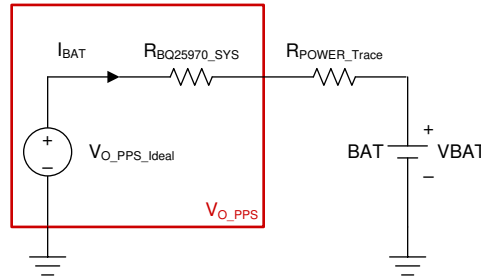

Figure 3. V_{O_PPS} Equivalent Circuitry
To create a charger using a Programmable Power Supply (PPS) protocol, such as the Power Delivery (PD) protocol, use an output voltage set slightly higher (such as ΔV) than 2 times the calculated voltage, as in Equation 7, ($V_{BAT} + 0.5 \times \Delta V_{BQ25970_SYS}$). To the BQ25970 device, it does not have a feedback loop for V_O , therefore, it is a kind of open loop power source, meaning that the BQ25970 device should be looked upon as a power source with non-zero internal resistance because its output voltage cannot be kept to a fixed value (for a power converter with feedback control loop, because the control loop can always keep the output as a fixed value whatever load current changes or not, meaning its internal resistance can be looked as 0, or an ideal power source). As Figure 3 shows, it is equivalent V_{O_PPS} circuitry for BQ25970 output, it can be viewed as an ideal power source with internal resistance: the internal resistance is $R_{BQ25970_SYS}$, the voltage of $V_{O_PPS_Ideal}$ equals to V_{O_PPS} from the PPS pre-set according to PPS protocol and all of impedance on the BQ25970 and PCB trace is ignored.